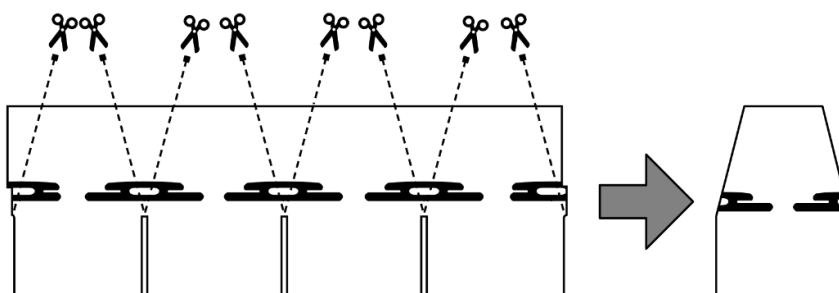

Fig. 10 - Ridge elements preparation
- Arrange the ridge elements by cutting an entire shingle into four pieces and shaping the top with a certain angle of cut - Fig. 10.
- Arrange the ridge elements by cutting an entire shingle into four pieces and shaping the top with a certain angle of cut – Fig. 10.